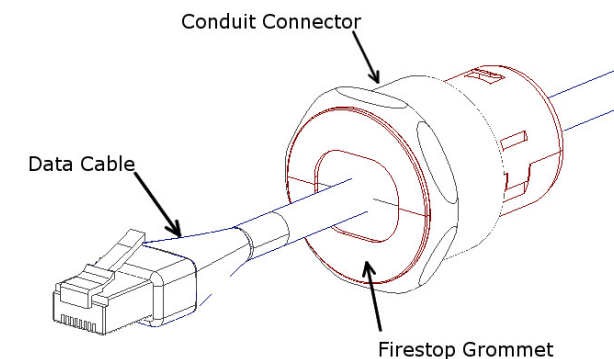

Figure 4
Step 4 – Run the data cable through the conduit connectors located on sides of the *access point enclosure*. Pull the data cable through the conduit connector far enough to allow attachment to the access point (8" - 10"). Snap the grommet on to the cable and slide it inside the conduit connector (Ref. Figure 4).